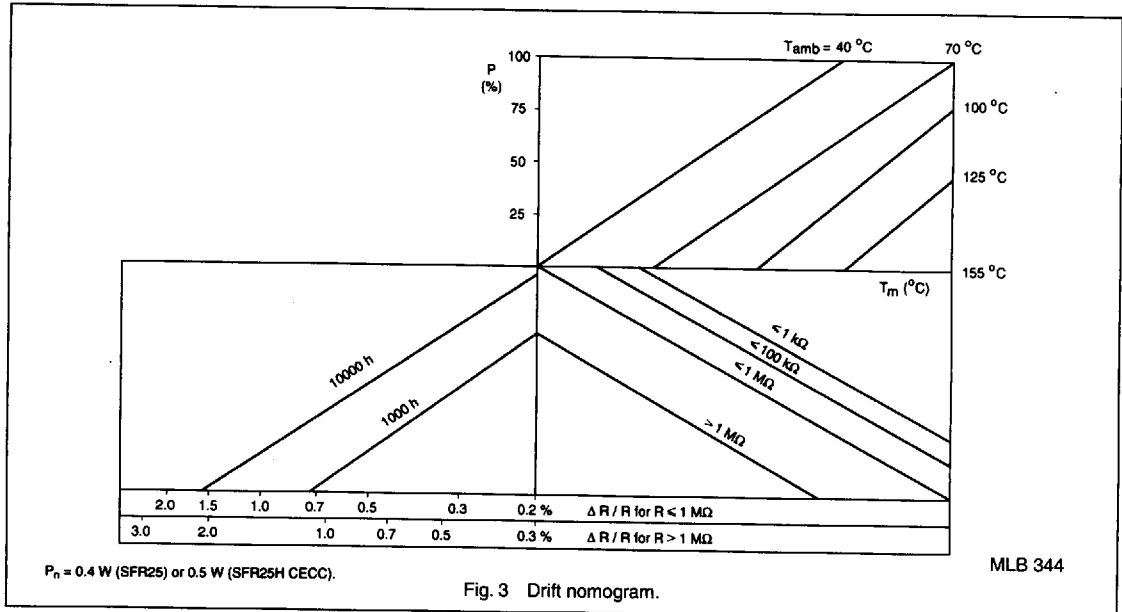
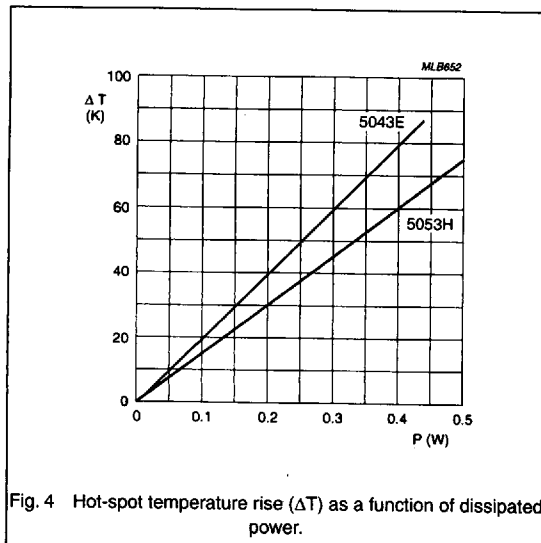

Fig. 3 Drift nomogram.
Fig. 4 Hot-spot temperature rise (ΔT) as a function of dissipated power.
Figure 3 gives a performance nomogram showing the relationship between the power dissipation (P), ambient temperature (T_{amb}), hot-spot temperature (T_m), resistance value (R), and maximum resistance drift ($\Delta R/R$) after 1000 hours of operation. The maximum hot-spot temperature is 155° C. Figure 4 gives the Hot-Spot Temperature Rise (ΔT) as a function of dissipated power. Figure 5 gives the temperature at the solder point as a function of dissipated power.